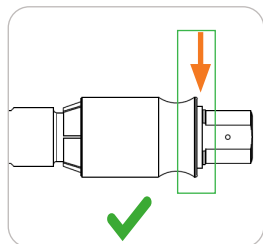
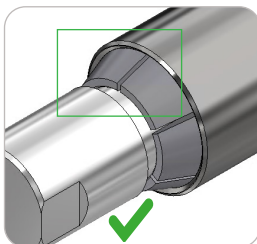
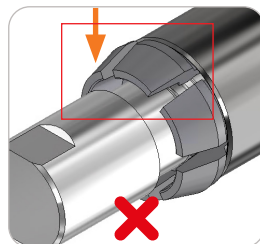

Figure 3
Figure 4
Figure 5
- The retaining ring must be visible (Figure 3) and the outer edges of the external diameter of the clamping jaws must no longer be visible (Figure 4 and Figure 5). The integrated shut-off valve, if provided, is pushed open by connecting the connector.